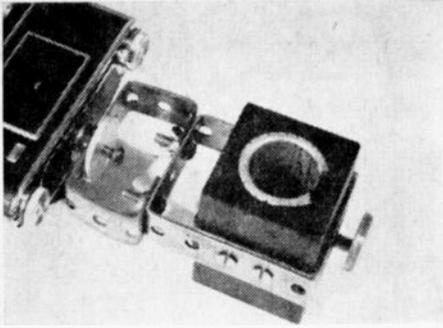
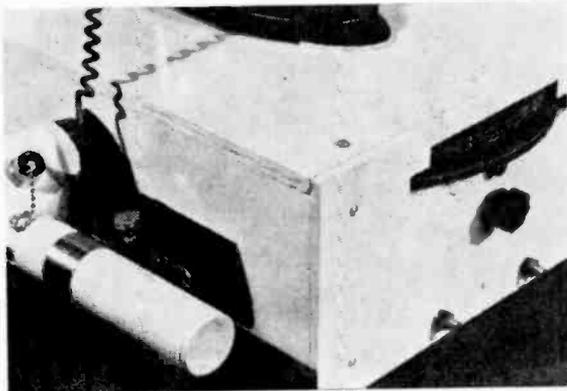

FIG. 6. Bracket is bolted to U-strap as picture shows you.
FIG. 14, top right. Mirror reflects light from hole onto stage for overhead lighting. Note hood, light-tight seal used between microscope, camera.
Note the extension bracket shown in Fig. 5. You use this when the microscope is shifted from its normal position over the light hole to permit use of oblique overhead illumination of opaque subjects (Fig. 14). Use the same type of plumber's strapping and bend as shown. The bracket is bolted to the U-strap as shown in Fig. 6.
**Opaque-Specimen Illuminator.** Your Dial-a-Flash will be far more useful if you make the simple adapter (shown in use in Fig. 14) to light opaque specimens which will not transmit light. The microscope is moved to one side from its normal position over the light hole. The extension bracket shown in Fig. 6 provides the extended reach needed to position the camera over the microscope.